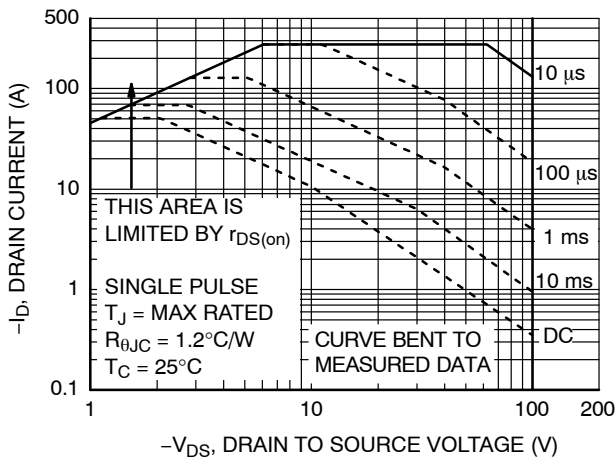

Figure 11. Forward Bias Safe Operating Area
- Pulse Id refers to Figure 11. Forward Bias Safe Operation Area.